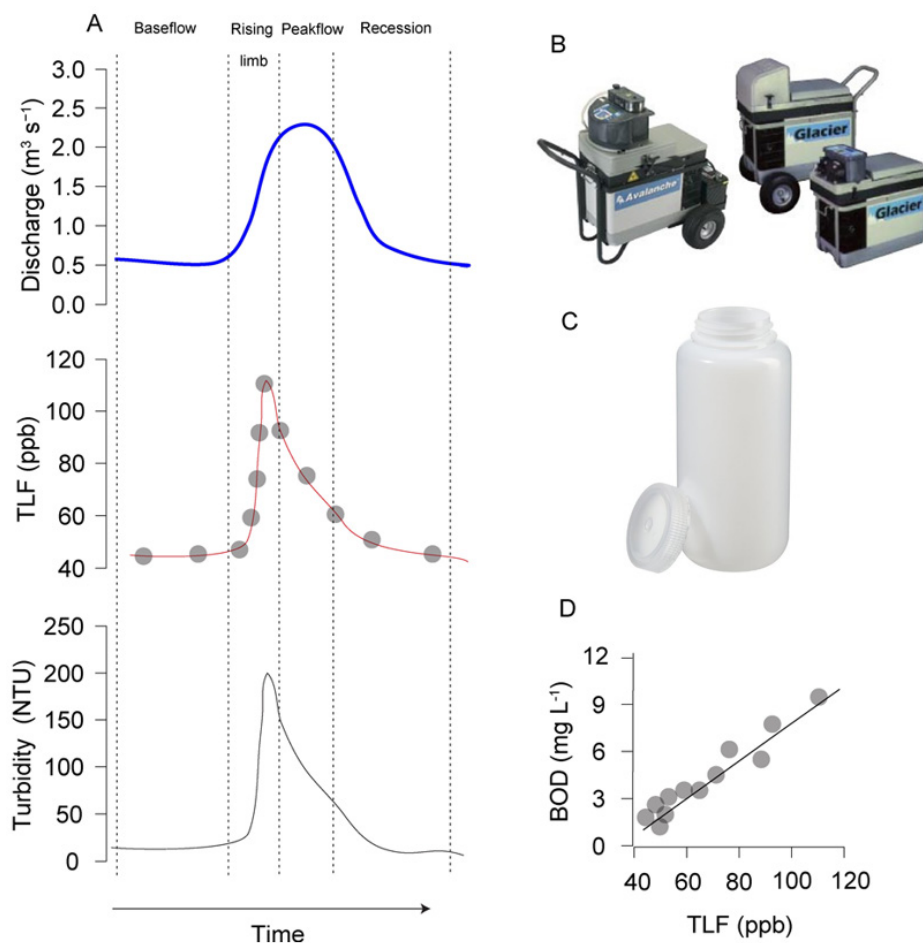

Figure 32: Schematic of a site-specific calibration procedure.
1. Grasp the eyebolt on top of the battery housing (Figure 32) and unscrew until the cap moves free of the housing.